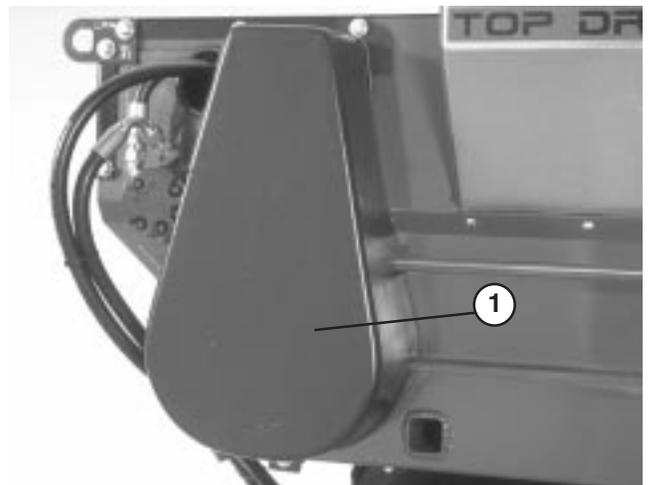

Figure 16
1. Remove chain cover (Fig. 16).